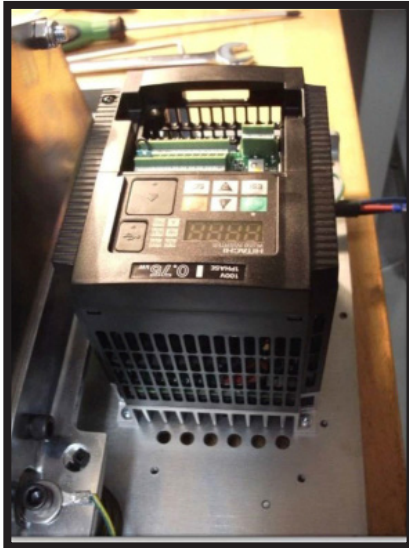

Figure 15
2. Remove (2) screws from each side of VFD base (Figure 15)